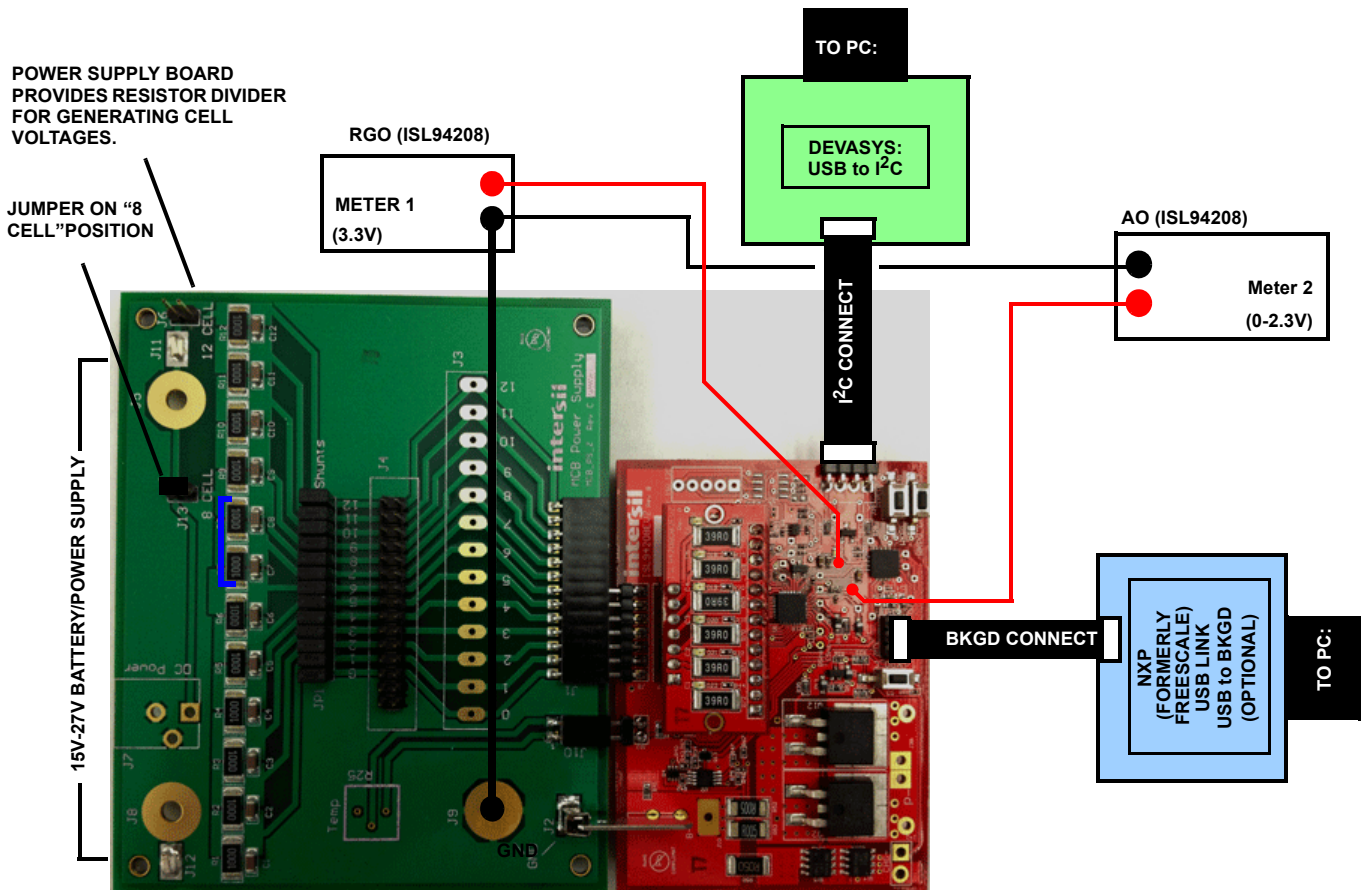

FIGURE 4. ISL94208EVZ EVALUATION BOARD TEST CONNECTION
- Figure 4 shows a green board is connects between a power supply and the evaluation board. This multi-option board supports the connection a single power supply (using an on-board resistor divider), or separate power supplies for each input, or battery cells.
- Before connecting the PC to the ISL94208EVZ board (through the USB to I2C interface) turn off the power supply and then plug the ISL94208EVZ board into the power supply board as shown in Figure 4.
In normal operation, the cell voltages are scanned four times per second. If monitoring the AO voltage (as shown in Figure 4), the meter will not be stable, since it sees an output of a series of voltages. A scope can be used to monitor the AO output, or use the GUI to select a specific voltage or temperature. This operation by the GUI stops the microcontroller from automatically scanning the voltages and puts the selected voltage on AO constantly. Automatic scanning will not start again until the GUI selects Monitor "All" (see Figure 6).